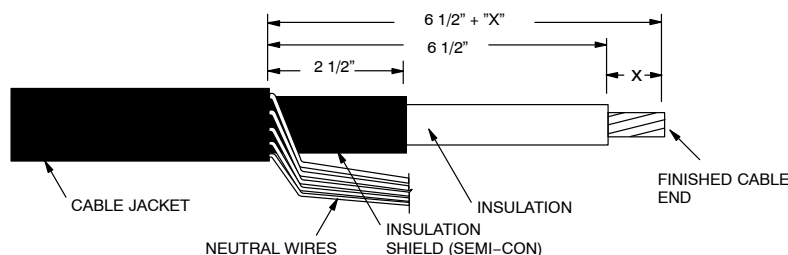

FIGURE 1
2. Prepare the cable using the dimensions shown in Figure 1. Be sure to check the lug or pin terminal connector being used to determine the insert depth "X". Provide an additional 1/4" of exposed conductor to allow for growth of the aluminum lug or connector during crimping.